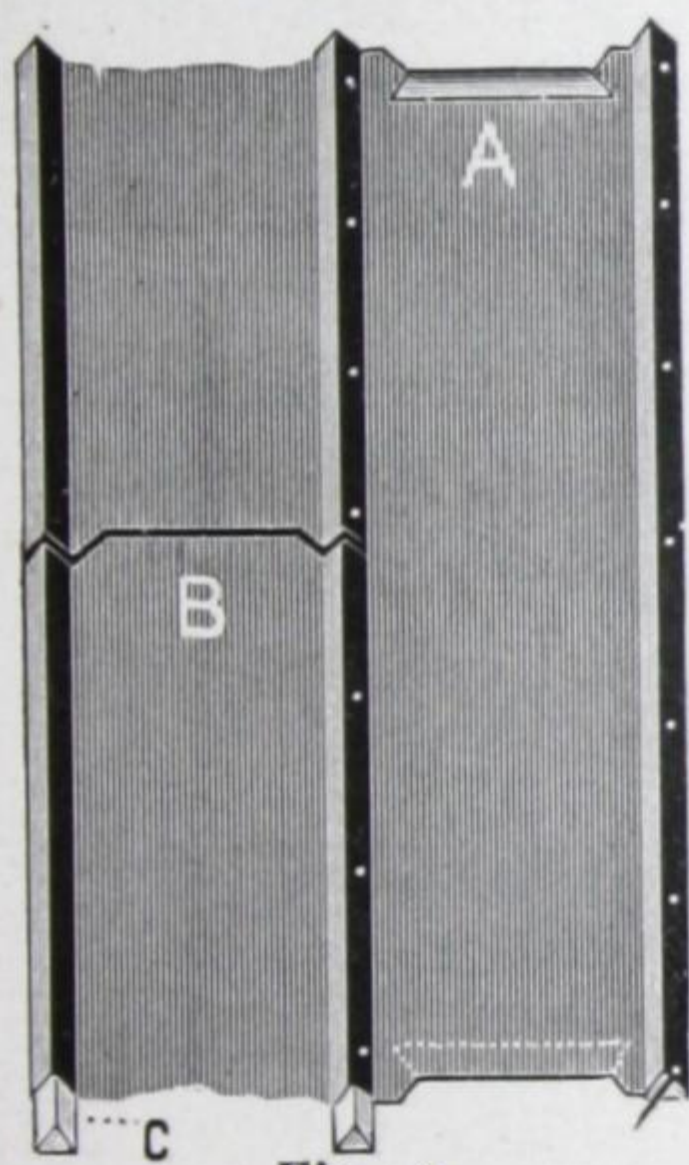

Fig. 9.
Shows triangular Wood Strip (C) to be used under the crimps, and nail as indicated in Fig. 9. Use  $1\frac{3}{4}$  inch Wire Nails, which will reach through the top of crimps and stick into the sheathing or roof supports.